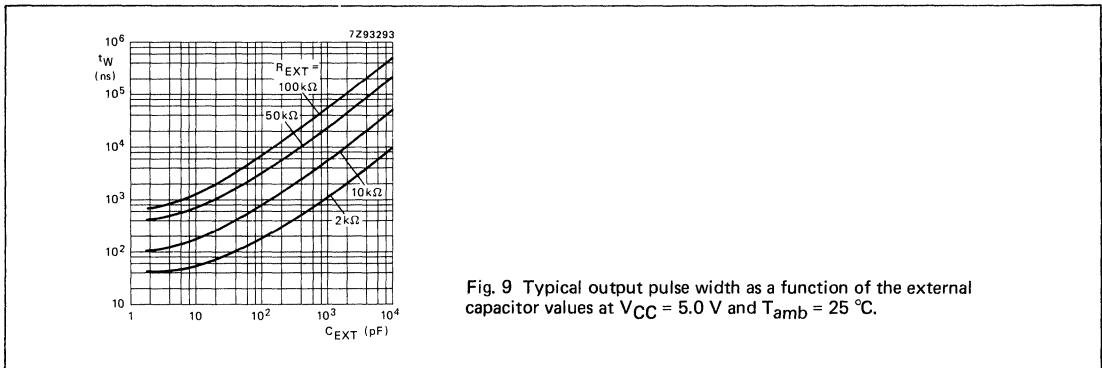

Fig. 9 Typical output pulse width as a function of the external capacitor values at $V_{CC} = 5.0\text{ V}$ and $T_{amb} = 25\text{ }^\circ\text{C}$.
1. For other R_{EXT} and C_{EXT} combinations see Fig. 9.